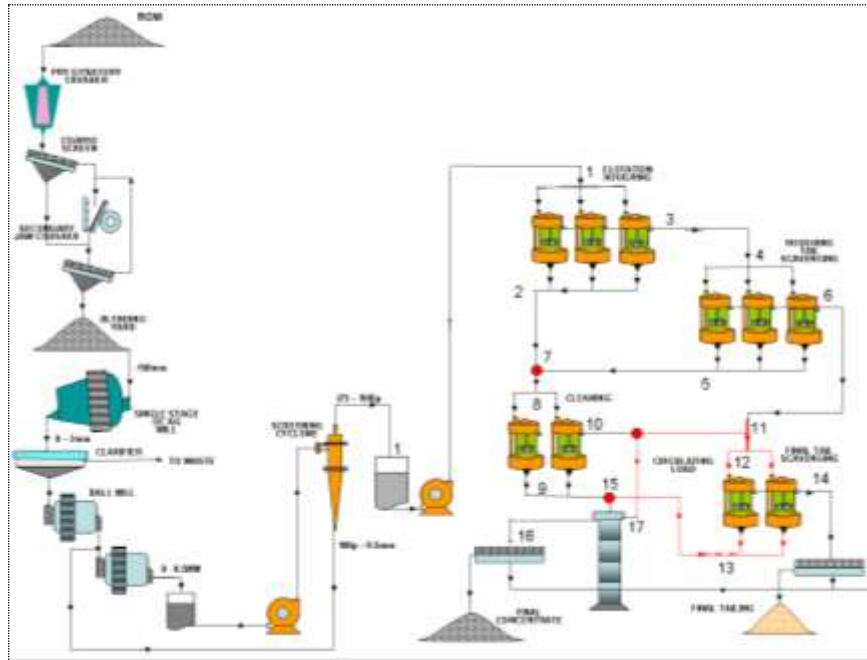

Figure 1: Flowsheet and Schematic Diagram for a Comminution Circuit
- A brief, legible and concise write up is therefore expected in a standard laboratory report and this must follow good engineering laboratory reporting format (using notations, charts, flowsheets, schematic diagrams and other visual illustrations - Figure 1).